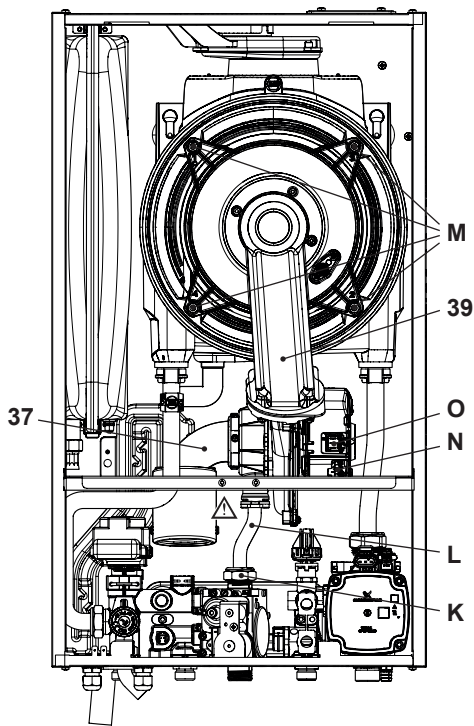
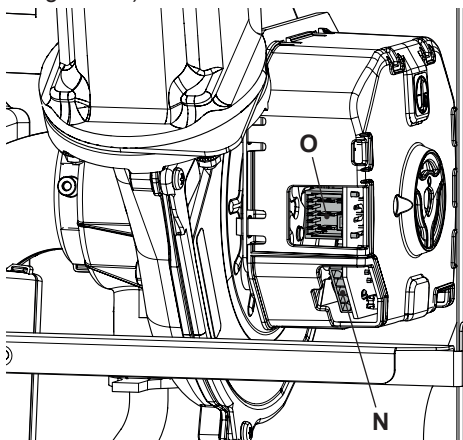

Fig. 10.11
Fig. 10.12
Removing the fan burner unit 39 in Fig. 10.11.
- Disconnect the fan connector "N" by pulling it (Fig. 10.11 - Fig. 10.12).
- Disconnect the fan connector "O" by pressing the plastic hook positioned at the bottom part of the connector (Fig. 10.11 - Fig. 10.12).
- Unscrew screws "M" and remove the fan burner unit 39 (Fig. 10.11).